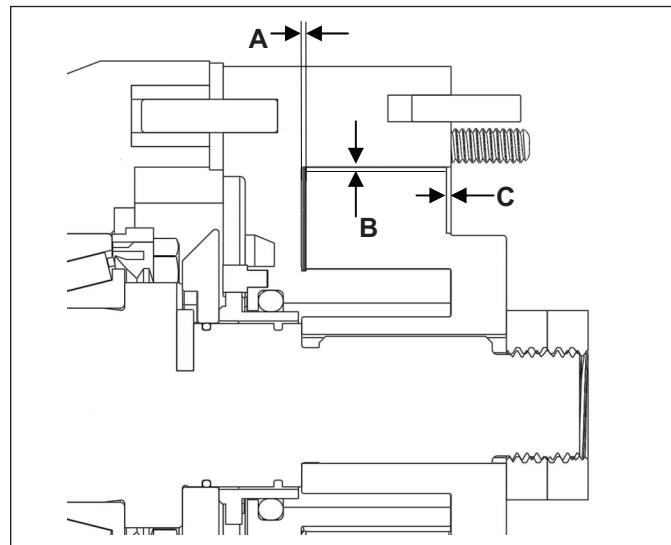
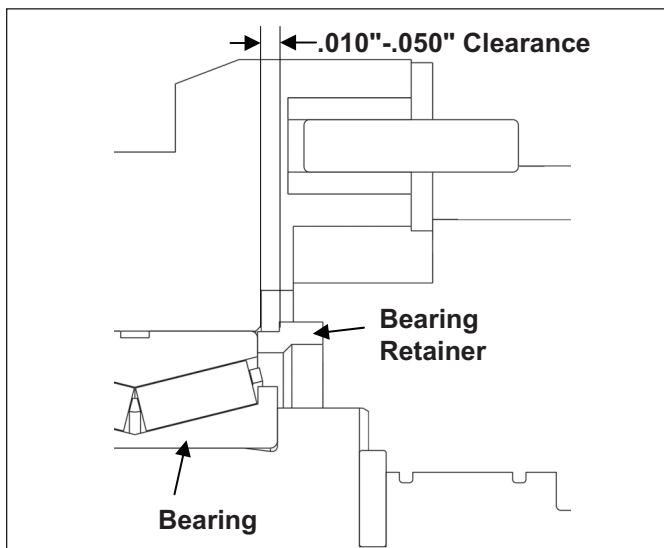

Figure 54. Important Clearances
Figure 53. Bearing Retainer Clearance
- Once the shafts are pressed into the gear case, install the bearing retainers to hold the shafts in place temporarily (do not install liquid sealant). Ensure there is proper clearance between the retainer and the gear case, as seen in *Figure 53*. Place the body on the gear case, making sure it is seated correctly. Assemble the rotors into the body and tighten down using the jam nuts. Measure dimensions A, B, and C seen in *Figure 54* and refer to *Table 10* on *page 41* to verify the clearances. If clearances are not correct, the shafts must be removed and the shims will need to be adjusted. If the clearances are correct, remove the rotors and body.